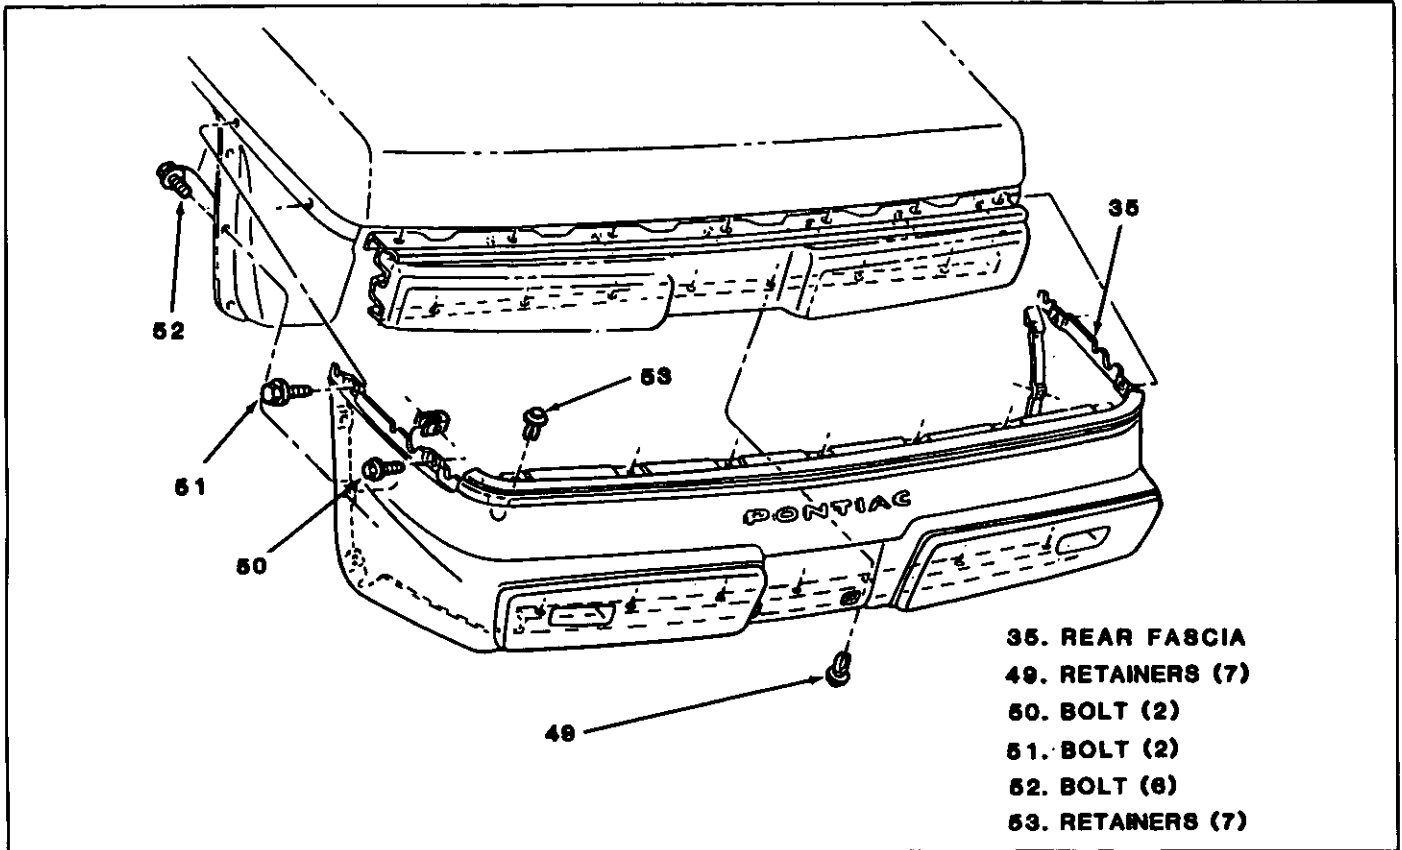

Fig. 16-Rear Fascia
2. Bolt (42)
3. Eleven screws (48)
4. Two bolts (43)
5. Two nuts (41)
6. Rubber strips (39), insert both ends of strip and roll center portion to fit.
**↔ Remove or Disconnect (Figure 16)**
2. Seven retainers (49)
3. Seven retainers (53)
5. Bolts (50)
6. Bolts (51)
7. Bolts (52)
**→← Install or Connect (Figure 16)**
1. Seven retainers (53)
3. Bolts (50)
4. Bolts (51)
5. Bolts (52)